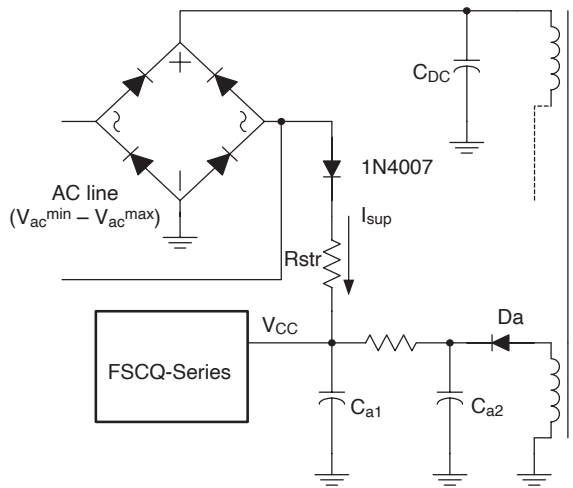
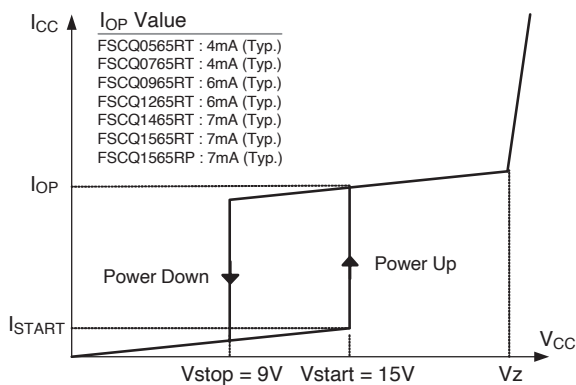

Figure 4. Startup circuit
Figure 5. Relationship Between Operating Supply Current and VCC Voltage
**1. Startup:** Figure 4 shows the typical startup circuit and the transformer auxiliary winding for the FSCQ-Series. Before the FSCQ-Series begins switching, it consumes only startup current (typically 25μA). The current supplied from the AC line charges the external capacitor (Ca1) that is connected to the VCC pin. When VCC reaches the start voltage of 15V (VSTART), the FSCQ-Series begins switching, and its current consumption increases to IOP. Then, the FSCQ-Series continues its normal switching operation and the power required for the FSCQ-Series is supplied from the transformer auxiliary winding, unless VCC drops below the stop voltage of 9V (VSTOP). To guarantee the stable operation of the control IC, VCC has under voltage lockout (UVLO) with 6V hysteresis. Figure 5 shows the relationship between the operating supply current of the FSCQ-Series and the supply voltage (VCC).